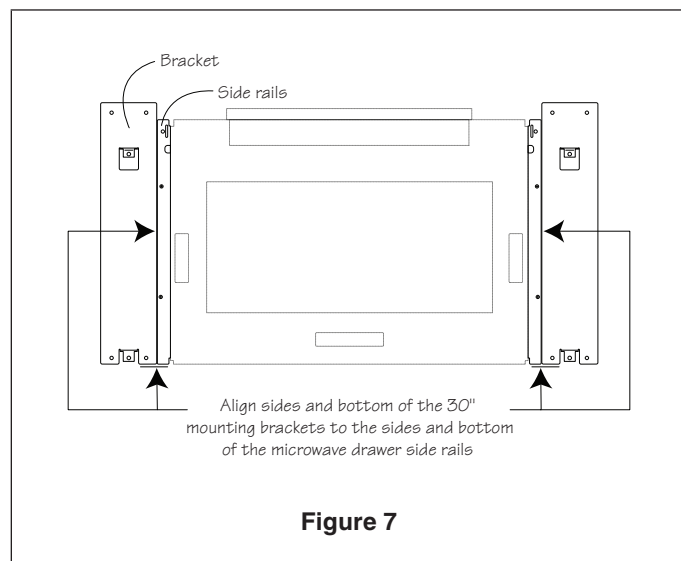

Figure 7
11. Mount the Left and Right 30" trim extensions using the 4 trim screws provided. See Figure 7.
8. Properly align brackets to microwave side rails. See Figure 7.